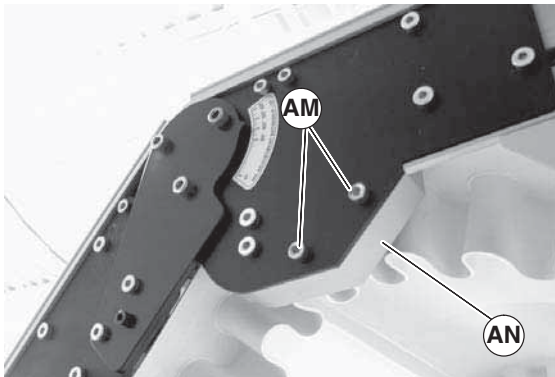
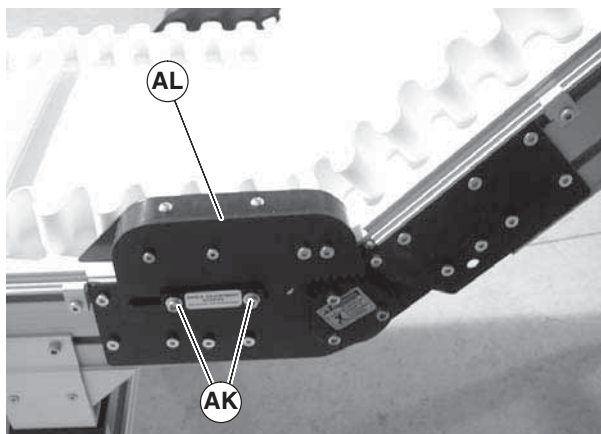

Figure 34
Figure 35
- If equipped, install lower knuckle return roller assembly (Figure 34, item AL). To properly align teeth, ensure the first gear of the pinion plate (Figure 35, item AY) matches with the first pocket of the rack plate (AZ). Secure with screws (Figure 34, item AK) on both sides of the conveyor.